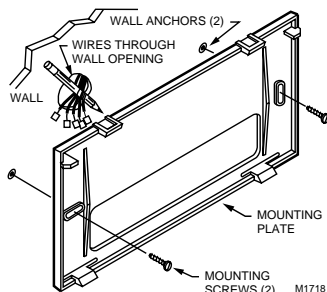

Fig. 1. Installing mounting plate.
3. Use a pencil to mark the two mounting holes. See Fig. 1.